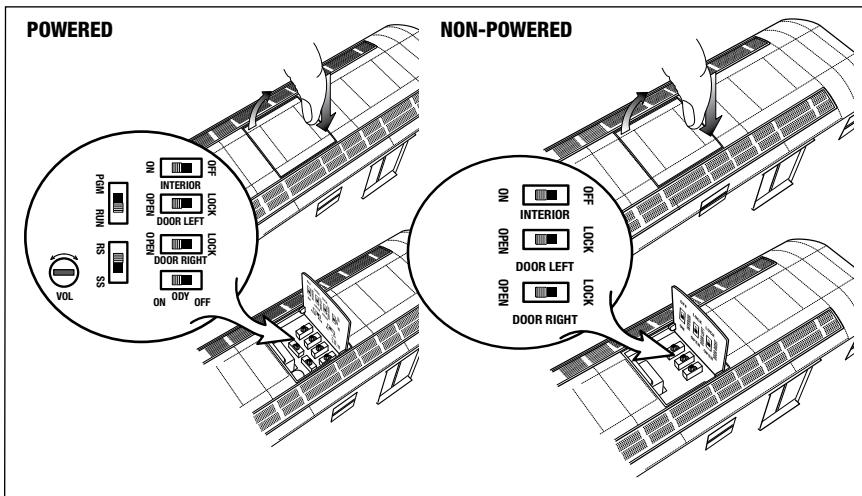

Figure 3. Switch locations
To open the left side doors, press **AUX1**, **F**. To close the doors, press **AUX2**, **F** then **AUX2**. To open the right doors, press **AUX1**, **R**. To close the doors, press **AUX2**, **R** then **AUX2**. You may choose to lock the doors from opening on a certain side using the switches located under the roof top hatch on each car. The switches are illustrated in Figures 3 on page 12.
Each car features a lighted interior, and opening doors. In the TMCC environment, the doors are opened and closed using the CAB-1 Remote Controller. To open the left side doors, press **AUX1** and **F**. To open the right side doors, press **AUX1** and **R**. To close the doors, press **AUX2**, **F**, **AUX2**. You may choose to lock the doors from opening on a certain side using the switches located under the roof-top hatch on each car. The switches are illustrated in Figure 3 on page 12.
1. Slide the Command reverse unit switch on your Subway to the PROG position. See Figure 3 on page 12.
Use the **HORN** button on your transformer to sound the horn. Refer to page 25 if your transformer is not equipped with these buttons. Adjust the volume using the volume control knob located under the hatch on the roof of the powered unit. Refer to Figure 3 on page 12.
We recommend that you operate your LEGACY Subway with The Odyssey II Speed Control System turned on. You may choose to operate your Subway without speed control by placing the Odyssey II Speed Control System switch to the OFF position. See Figure 3 on page 12.
3. Slide the Command reverse unit switch to the PROG position. At this point, the Subway is “locked” into your chosen direction. See Figure 3 on page 12 for the location of this switch.